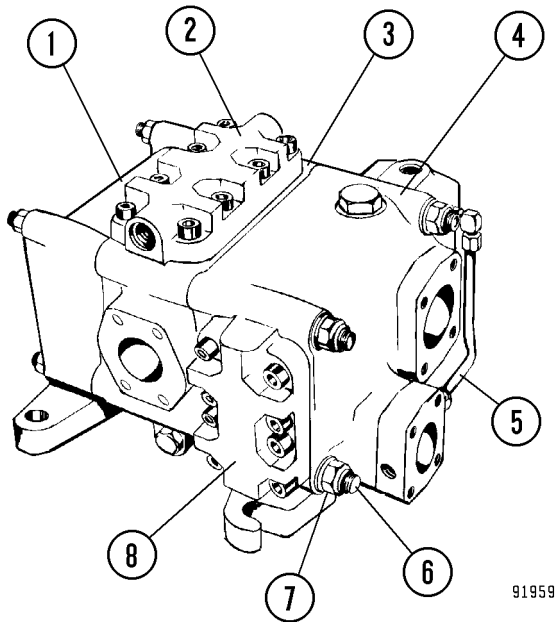

FIGURE 8-2. HOIST VALVE ASSEMBLY
1. Remove four tie rod nuts and washers (7, Figure 8-2) from one end of the valve. Slide the tie rods from the valve and separate the sections.